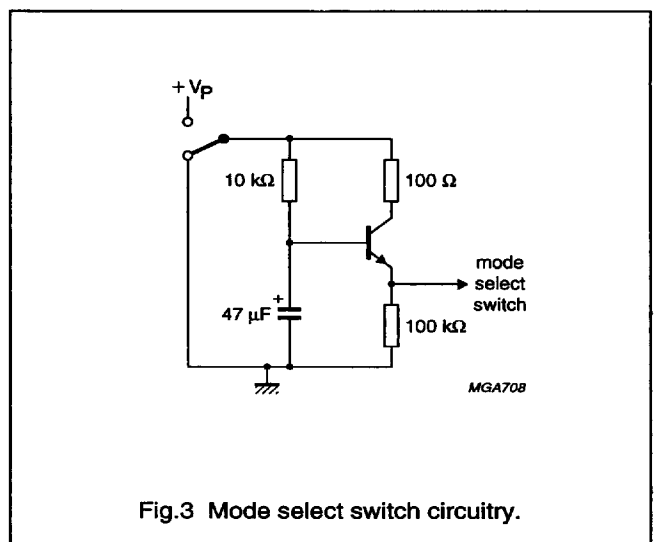

Fig.3 Mode select switch circuitry.
- External timing circuitry (see Fig.3).
The circuit in Fig.3 slowly ramps up the voltage at the mode select switch pin when switching on and results in fast muting when switching off.